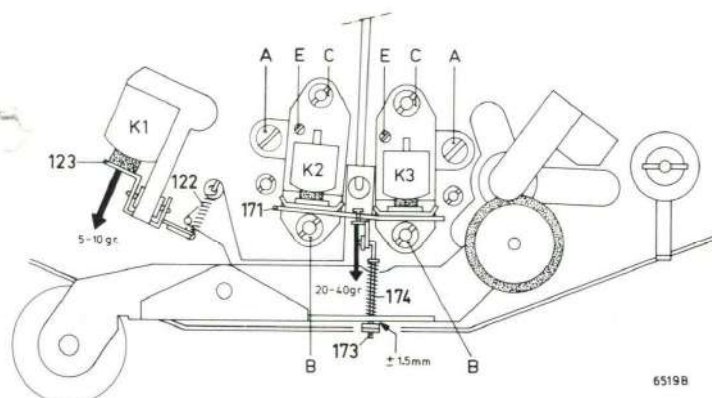

Fig. 5
A. ADJUSTING THE RECORDING, PLAYBACK AND ERASE HEAD (Figs. 5 and 6)
Adjusting the inclination of the recording and playback head (Fig. 5)